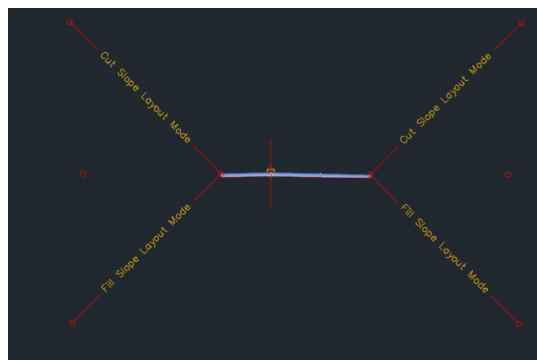

Fig. 3. Assembly AL1-AS1 for CORR1.
3. CORR1 is defined with a single assembly called AL1-AS1 (see fig. 3) composed of: